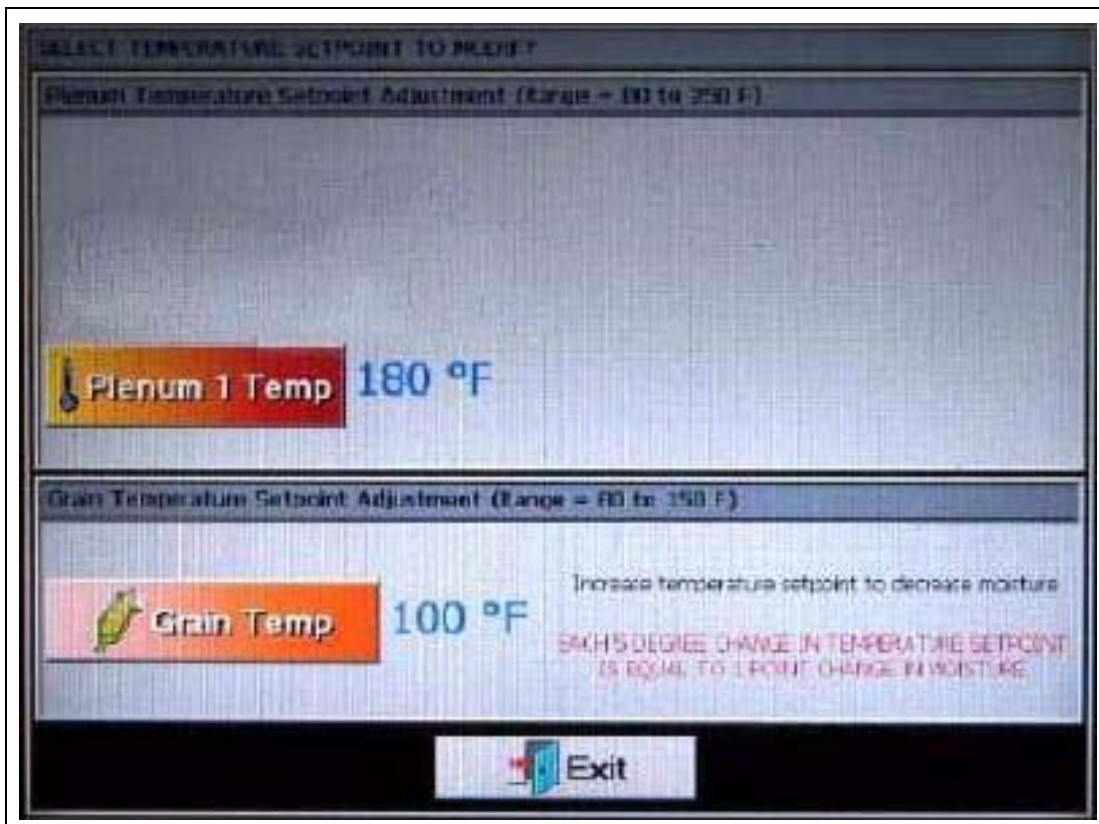

Figure 6F
1. Press  to display temperature setup screen. (See Figure 6F.)